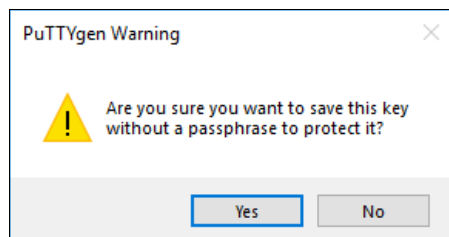

Figure C-3 Confirming the security warning
5. Click **Save private key**. A warning message is displayed (see Figure C-3). Click **Yes** to save the private key without a passphrase.